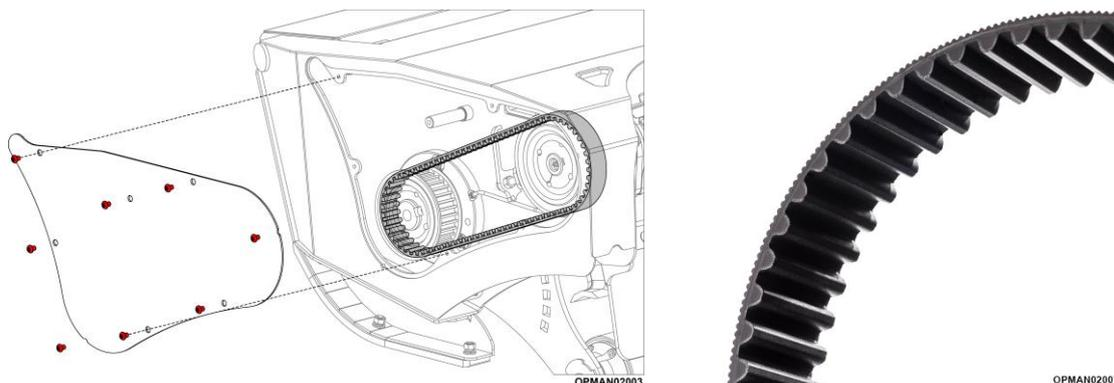

Figure 5.15
The drivebelt is located behind the belt guard cover plate which is able to be taken off by removing the eight torx head screws; see Figure 5.15.
- 5.7.2.1 Remove the drivebelt cover plate from the main machine cowl by removing the eight torx head screws; see Figure 5.15.